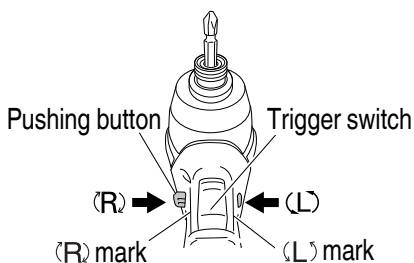

Fig. 7
The L-side of the pushing button is pushed to turn the bit counterclockwise (See **Fig. 7**) (The (L) and (R) marks are provided on the body).